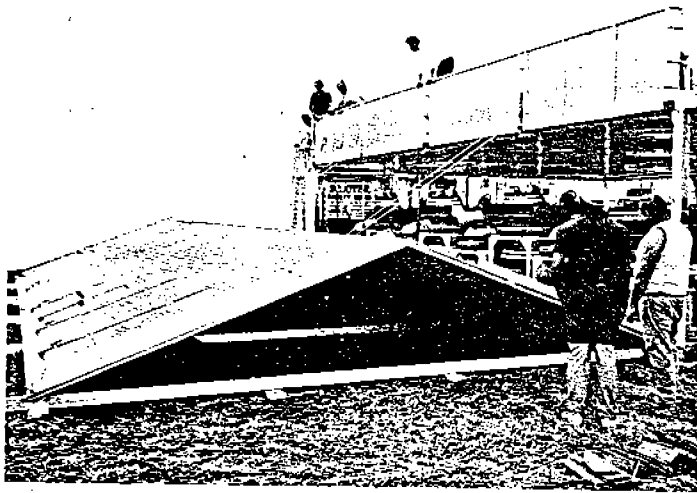

FIGURE 5
2. **LOWER DECK** that winch cables are fastened to. By using toggle switch, snug up cables. Now, remove two 1/4" tee handle safety anchor bolts from end of deck. With a person at each end of deck, pull out while extending cables. (See Figure 5). After deck has been lowered, wind up cables and repeat procedure on other side.